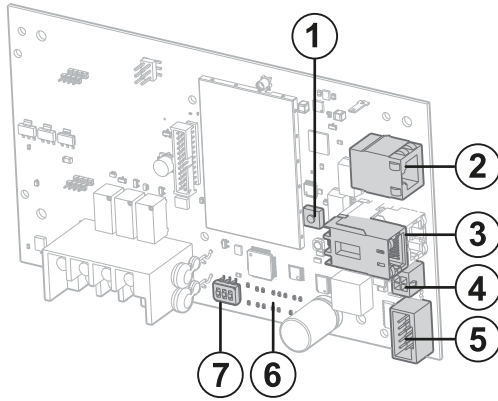

Fig. 26: Connected Services Gateway module
- 1 Connect the power harness to the 4-pin power connector on the CSG. See item 4 in Fig. 26.